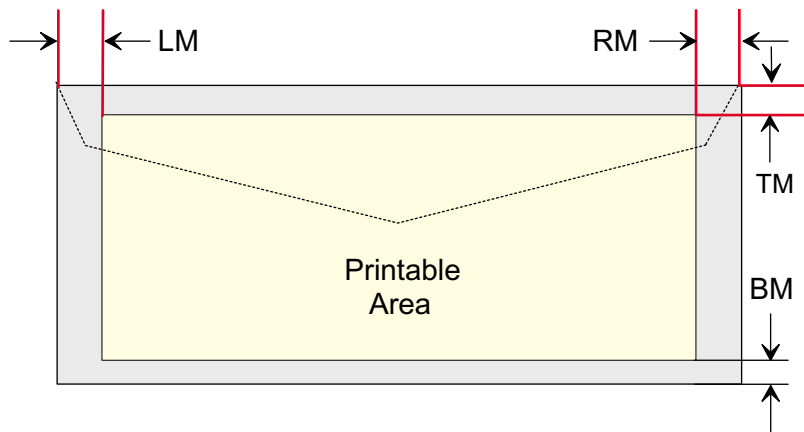

Figure 1-4. Printable Area for Envelopes
- Envelope See Table 1-9 and Figure 1-4 which show the minimum margin and printable area for envelopes, respectively.